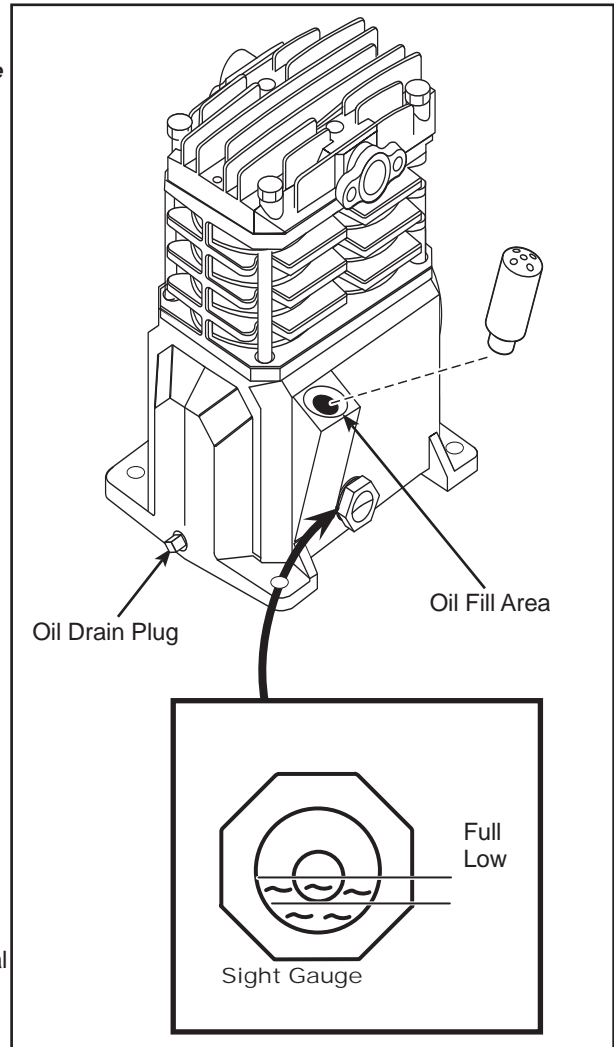

Figure 4 - Lubrication
**CAUTION** Before operating compressor, ensure oil is filled to the center of the sight gauge (see figure 4)